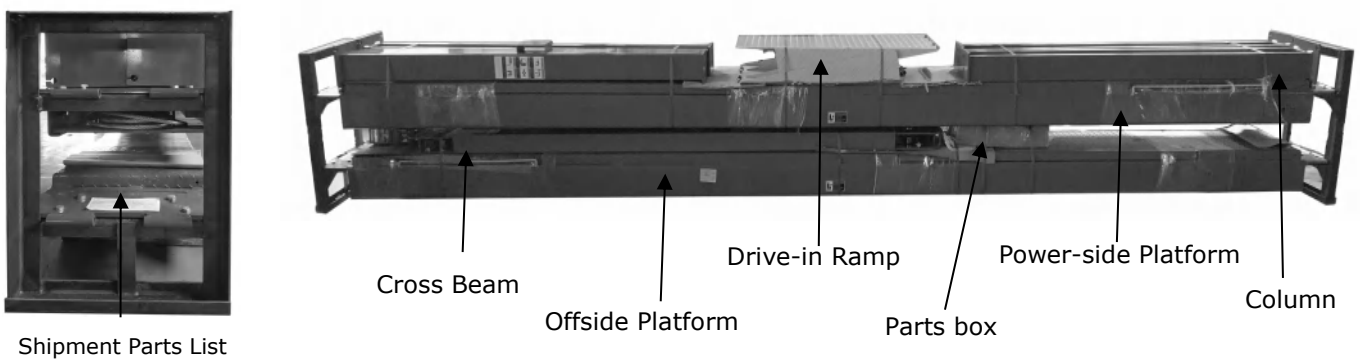

Fig.7
3. Open the outer packing ,check all the parts according to the parts list (See Fig. 7).